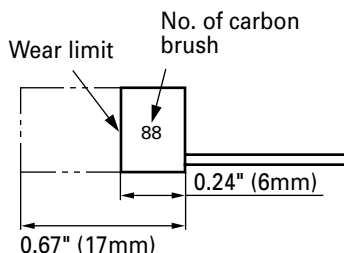

Fig. 7
4. Inspecting the carbon brushes (Fig. 7)
NOTE: Use HITACHI carbon brush No. 88 indicated in Fig. 7.